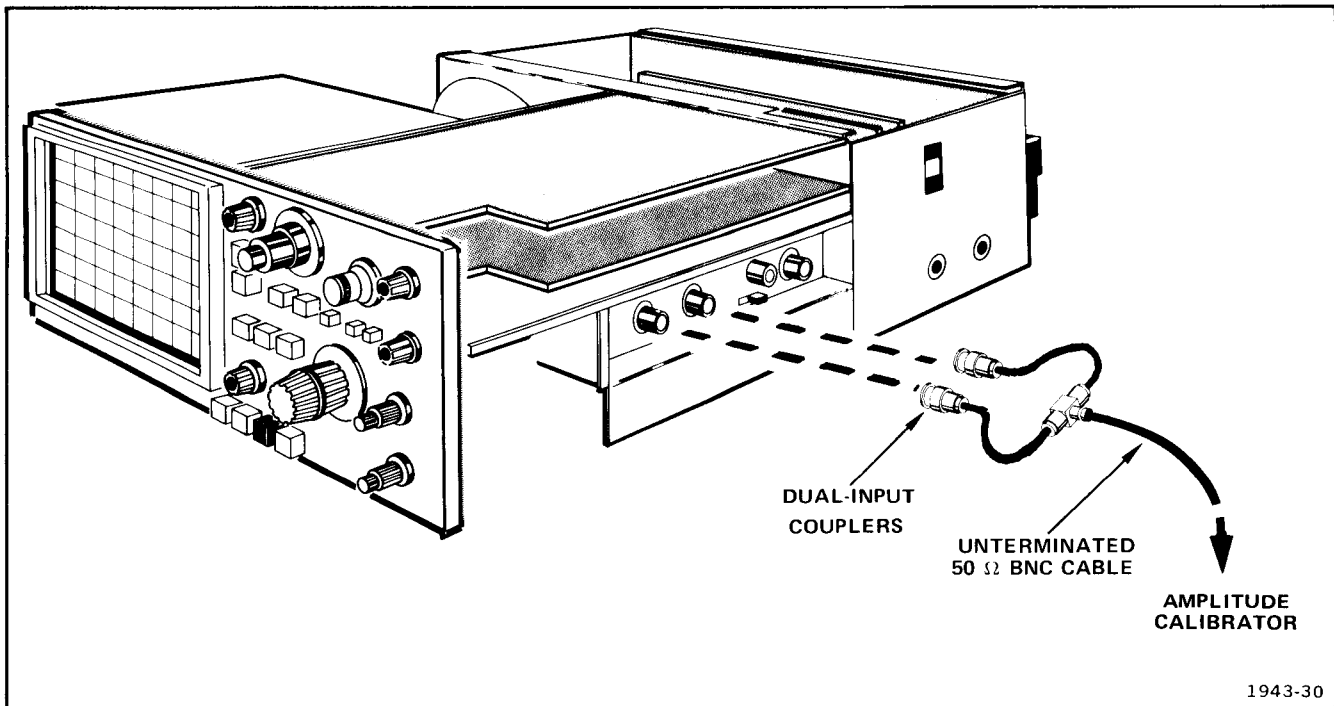

Fig. 6-6. Equipment Setup.
a. Connect test equipment as shown in Fig. 6-6.